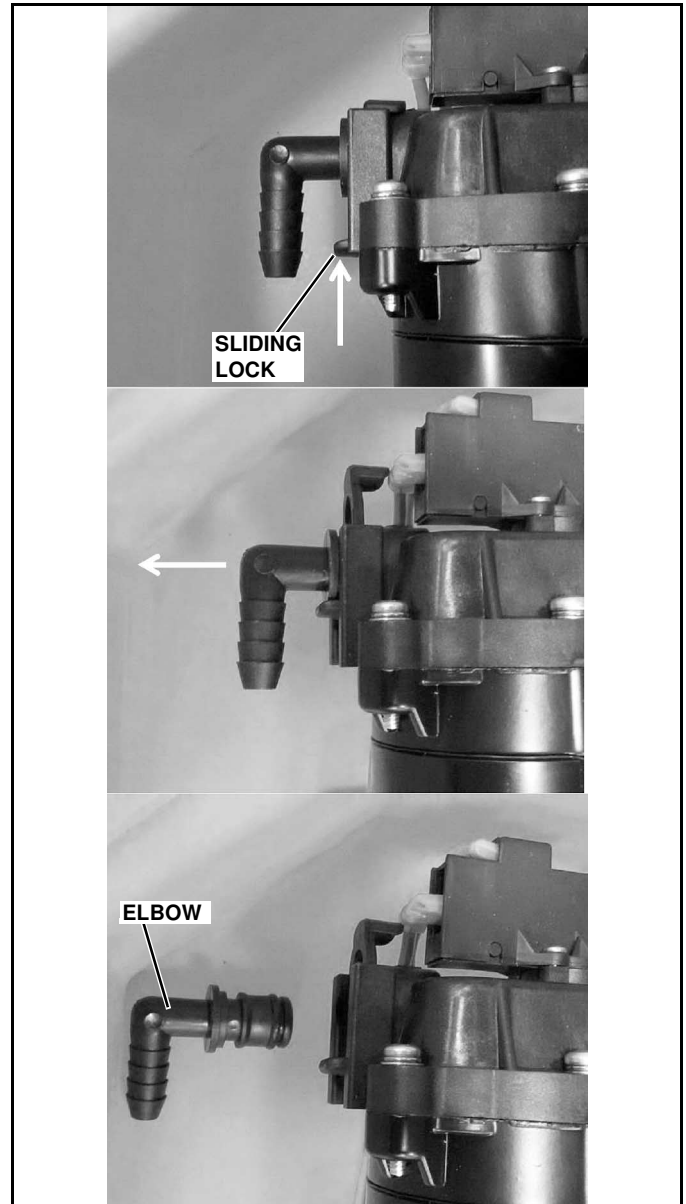

Figure 1-7
5. Dismount the output elbow fitting from the SWS pump by pushing up on the sliding lock, then pull straight out from the pump. (See Figure 1-7)